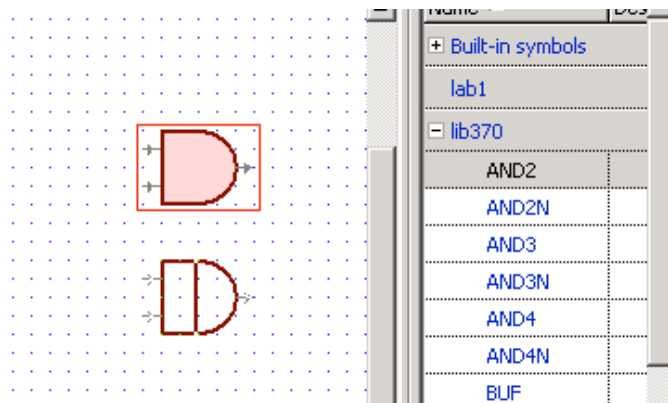

Figure 15
9. Active-HDL uses the standard Windows user-interface to select, move, and copy items in the schematic (i.e. drag, Ctrl-drag for copying multiple parts, Ctrl-z for undo, etc.). Figure 15 is an example of Ctrl-drag.